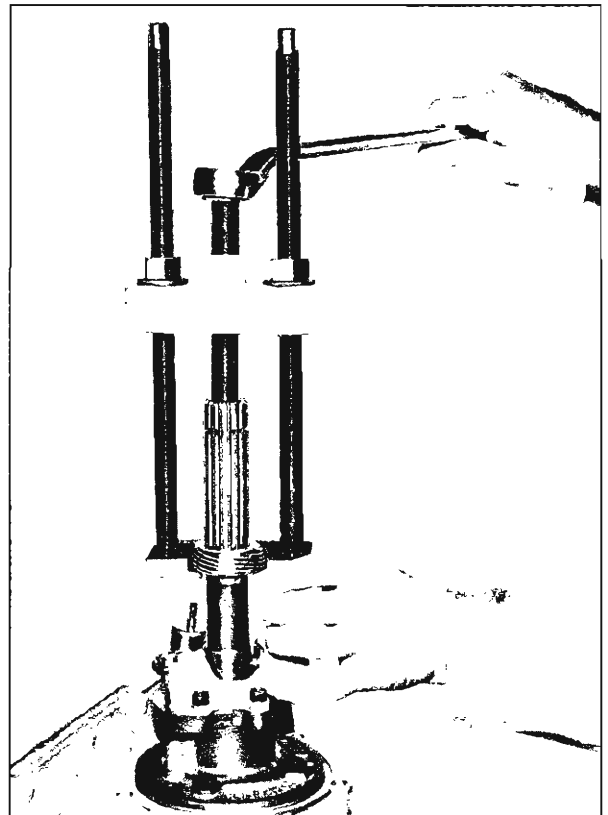

Fig. 7PG—Removing Speedometer Drive Gear
5. Remove the speedometer drive gear from output shaft, using J-5814 (fig. 7PG).